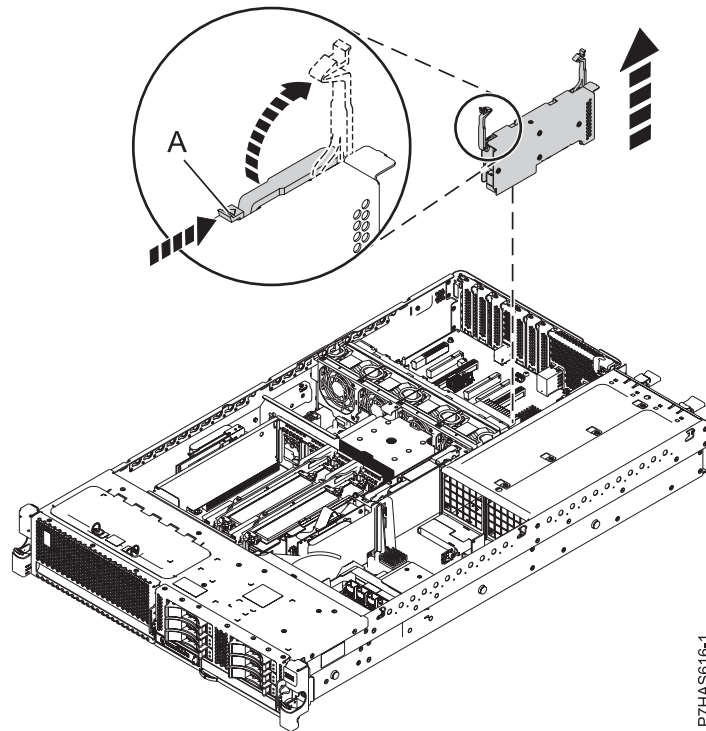

Figure 5. Adapter removal from a rack-mounted 31E/1C system
12. With the system in the service position, remove the existing GX adapter (feature code (FC) EJ0H, GX++ LP 1-port PCIe2 x8 adapter) assembly as shown in Figure 5 on page 7. Unlock the latches (A) on the adapter. Evenly pull up the latches into the open position, and then lift the adapter out of the